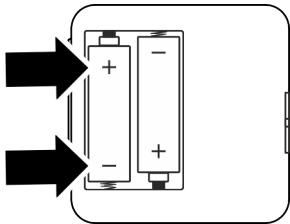

Fig. 5: Inserting the battery
3. Insert the two alkaline batteries of type 1.5 V AA LR6 into the housing cover, ensuring the correct polarity (Fig. 5).
5. Insert the two alkaline batteries of type 1.5 V AA LR6 into the housing cover, ensuring the correct polarity (Fig. 5).